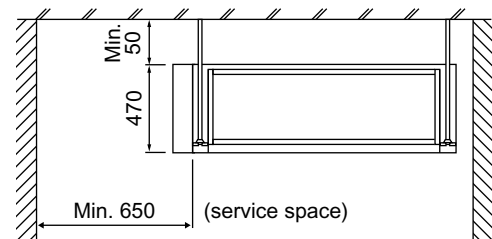

Fig. 1 (length: mm)
- (1) Select an installation site where the following conditions are fulfilled and that meets with your customer's approval.
- Where sufficient clearance for maintenance and service can be ensured. **(Refer to Fig. 1)**